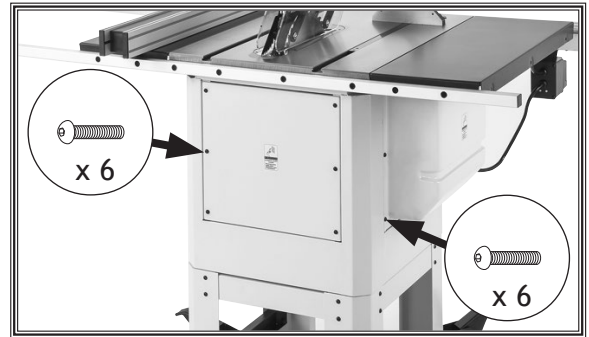

Figure 33. Rear access panel installed.
35. Secure rear access panel and motor cover each with (6) M5-.8 x 12 button head cap screws (see Figure 33).